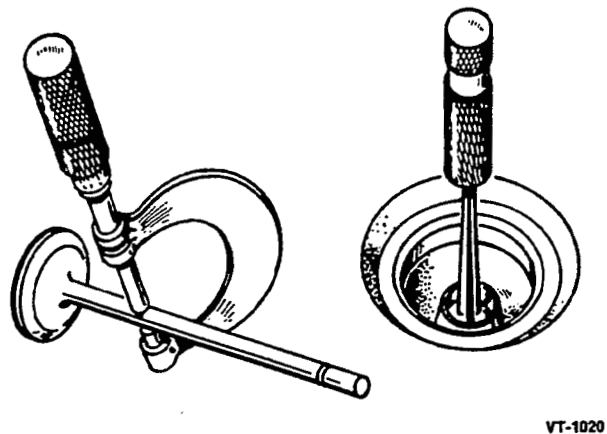

FIGURE 9-6. VALVE STEM AND VALVE GUIDE INSPECTION
**Stems and Guides:** Check valve stems and guides for wear, as shown in Figure 9-6. Use a hole gauge to measure the valve guide. When valve clearance with the stem exceeds the original clearance by 0.002 inch (0.05 mm), replace either the valve or guide or both, as necessary. Always regrind the seat, to make it concentric with the newly installed guide.